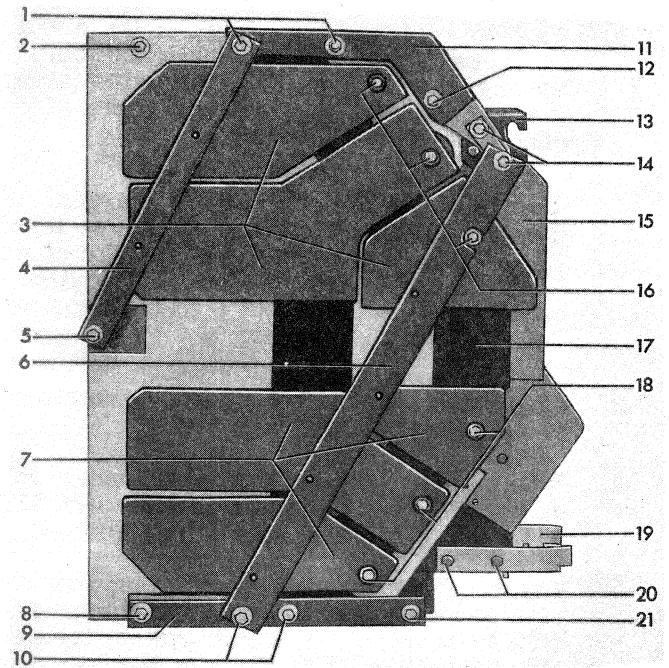
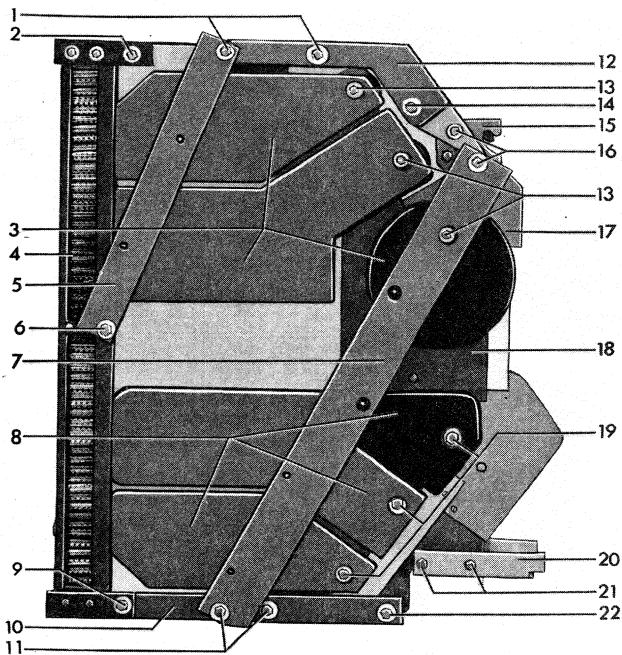

Figure 18A. (8036083) "-4" Design
Figure 18B. (8038702) Early "-6" Design
To reassemble the interrupter to the breaker, rest the lower interrupter support (18) on the support bracket (17). Slide the arc chute forward, lifting it slightly to engage the supporting bolts (11) in the slots of the upper interrupter support (8). On the "-4" design check the spring baffle (11) Figure 22, to assure that it closes the gap between the upper insulation (17) Figure 18A and the back surface of the contact support (4) Figure 22. On the "-6" design check to assure that the upper insulation (15) Figure 18B is properly positioned within the barrier suspended from the stationary contact support (9) Figure 23.